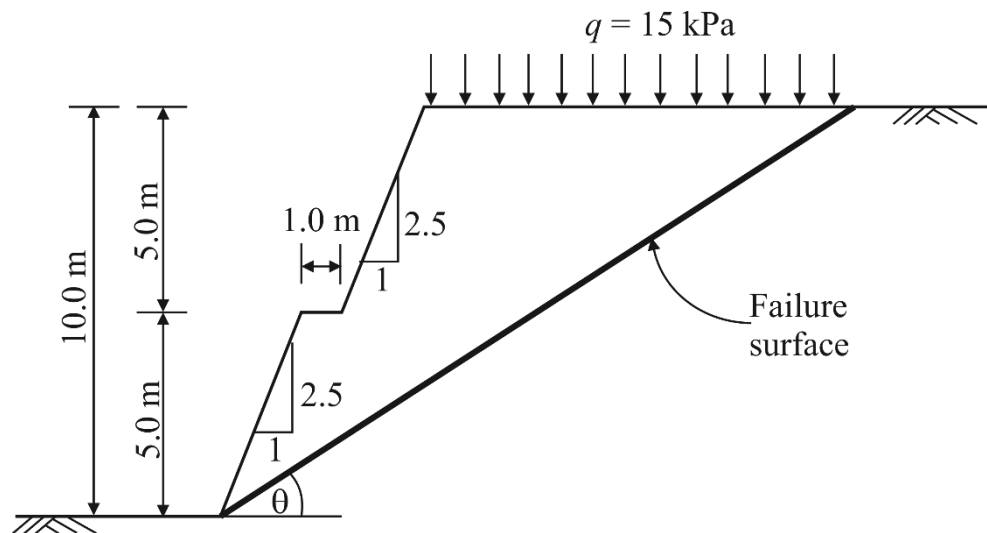

Figure Q4
4. The design of a planned railway line needs to assess the stability of excavated slopes in a clay soil. A site investigation indicates that the clay is saturated and homogeneous to a considerable depth, with a bulk unit weight, $\gamma_{\text{sat}} = 20 \text{ kN/m}^3$. The site investigation did not provide a reliable value of the clay's undrained strength, S_u . However, during earlier temporary slope excavations at a site nearby in the same clay, a failure of a slope was recorded, the geometry of which is depicted in Figure Q4.
The slope in Figure Q4 was excavated with a 1.0 m wide horizontal bench in the middle of the slope height and with the gradient in both parts of 2.5:1 (vertical to horizontal). The excavated soil was deposited behind the crest of the slope, forming a surcharge, q , of 15kPa, which contributed to the slope failure.
Using the Limit Equilibrium method of analysis and clay properties given above, analyse the failure in Figure Q4 to determine the clay's undrained strength, S_u . Assume that the failure happened in an undrained manner, with the Tresca failure criterion active along the indicated planar failure surface, inclined at an angle θ to the horizontal.